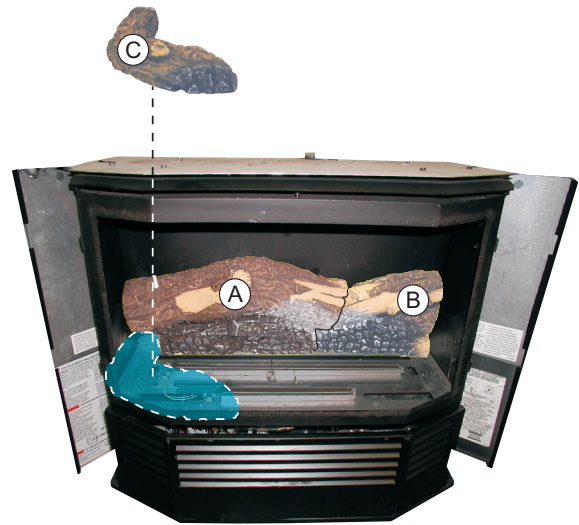

Figure 59
5. Place the Front Left Log (C) into the front left corner of the firebox, and position into the notch on the bottom left of Log (A). See Figure 59.